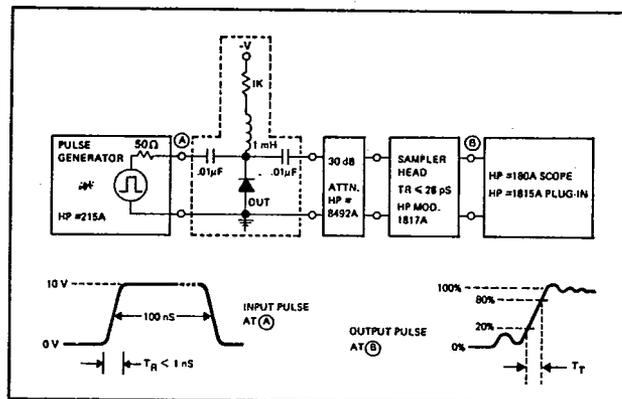

Figure 5. Transition Time, T_T , Test Set-Up
4. Measured at V_R = 10 volts, I_F = 10 mA (see Figure 5)
4. Measured at $V_R = 10$ volts, $I_F = 10$ mA (see Figure 5)